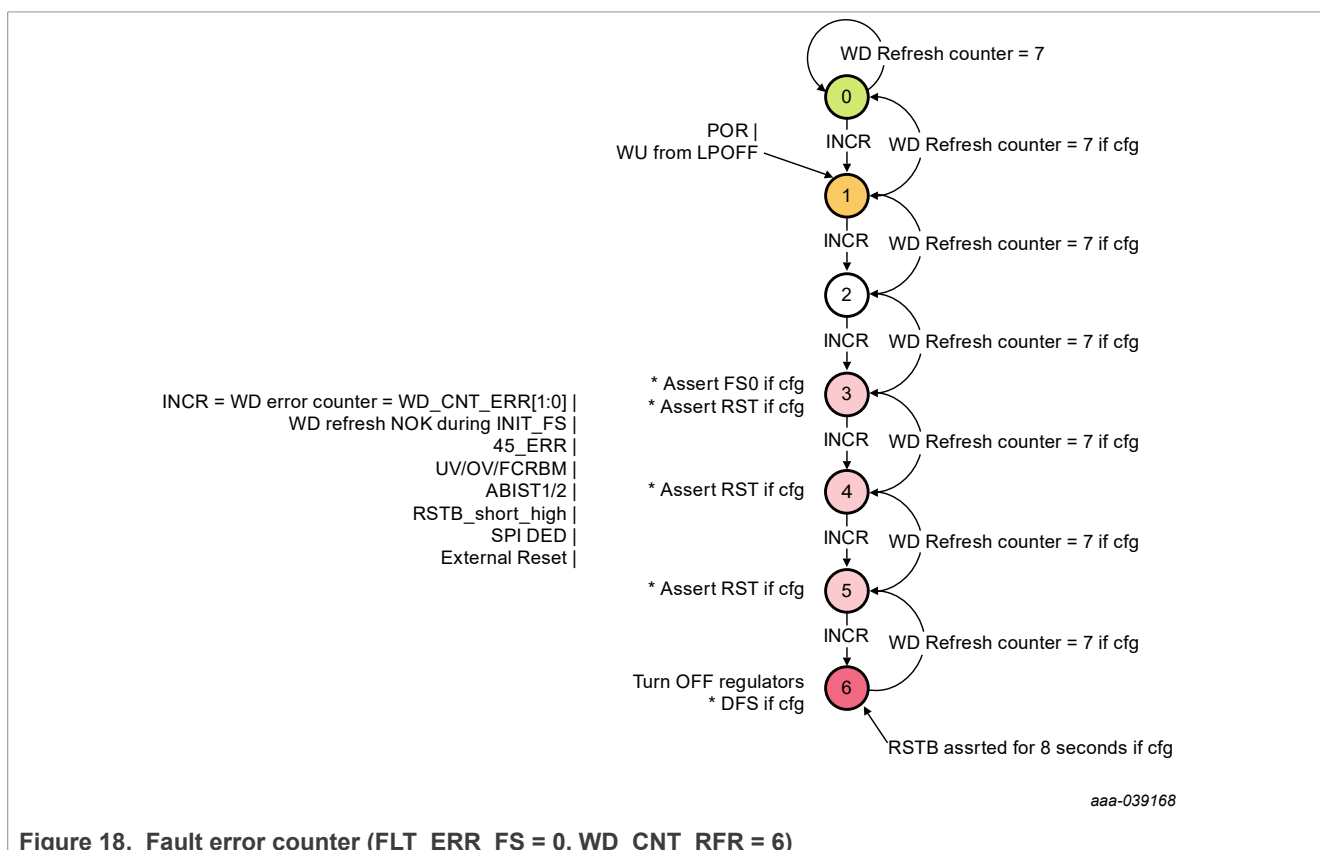

Figure 18. Fault error counter (FLT\_ERR\_FS = 0, WD\_CNT\_RFR = 6)
- FLT\_ERR\_FS = 0/Intermediate = 3; Final = 6 (Figure 18).